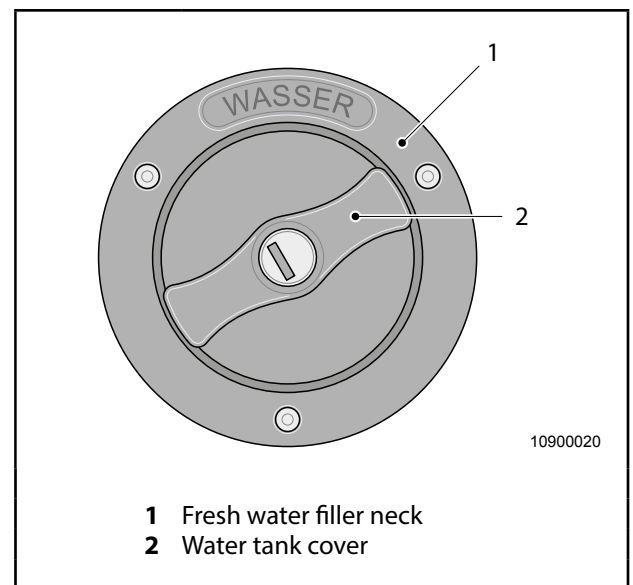

Fig. 54 Fresh water filler neck
Fresh water filler neck (Fig. 54, item 1) is located on the outer panel of the vehicle.
1. Open water tank cover (Fig. 54, item 2).
3. Close water tank cover (Fig. 54, item 2).